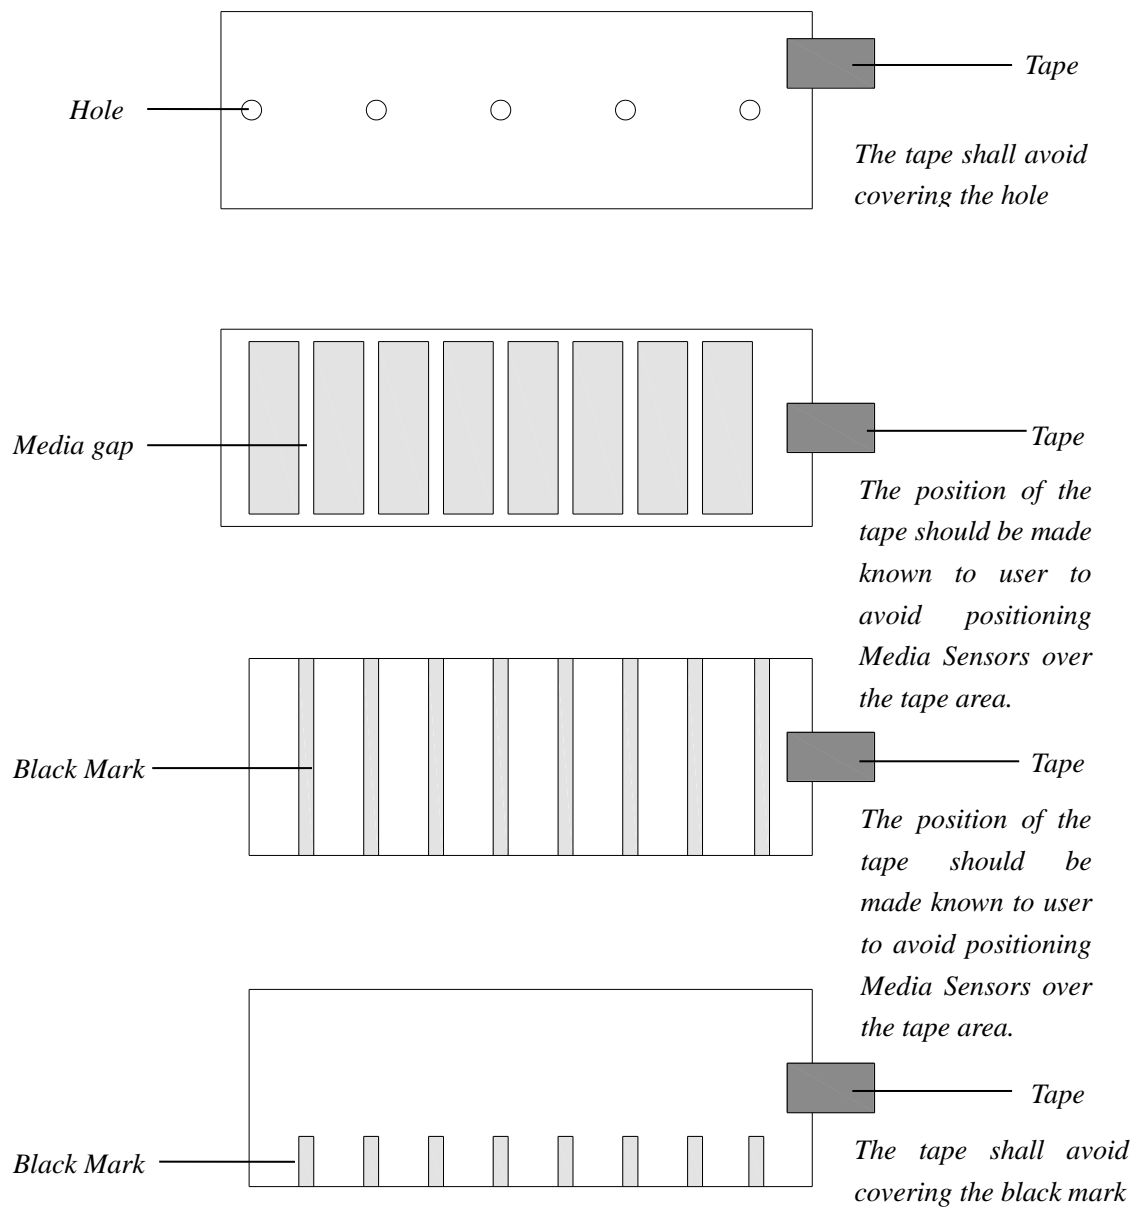

Figure 3-5 End-fixing Tape Position
- *When roll media is produced, the media end would be fixed on the media core with duct tape or scotch tape. If your printer cannot detect the Media Out signal well, please refer to Figure 3-5 to check the position of the tape.*